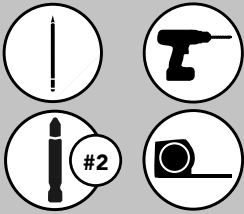

FIG. 1
Place slide assembly in cabinet, center and set back 1" from front of cabinet to the front of the slide. Install (4) 8 x 5/8" truss head screws into slots. See Fig. 1